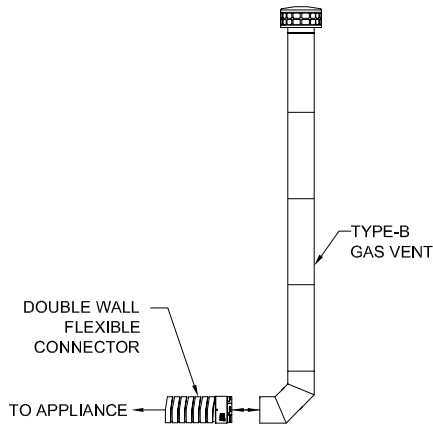

FIG. 3
- c. Inlet end of Type-B gas vent Tee or "Y" (See FIG. 3).